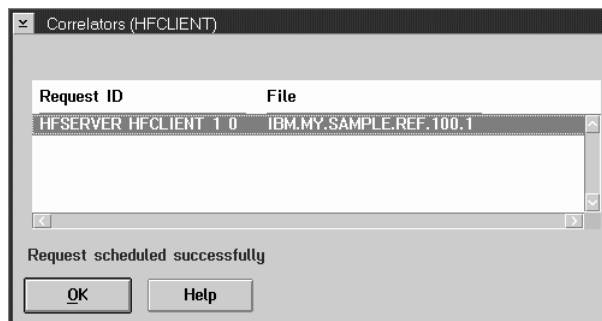

Figure 139. Correlators window
- 6 Click on the **Install** push button. The Correlators window is displayed, as shown in Figure 139.